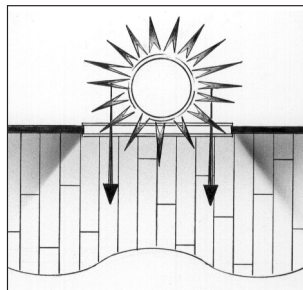

Fig. 3
- Install parallel to incoming light from any windows or if lighting is not a concern, parallel to the longest wall in the room (Fig.3).